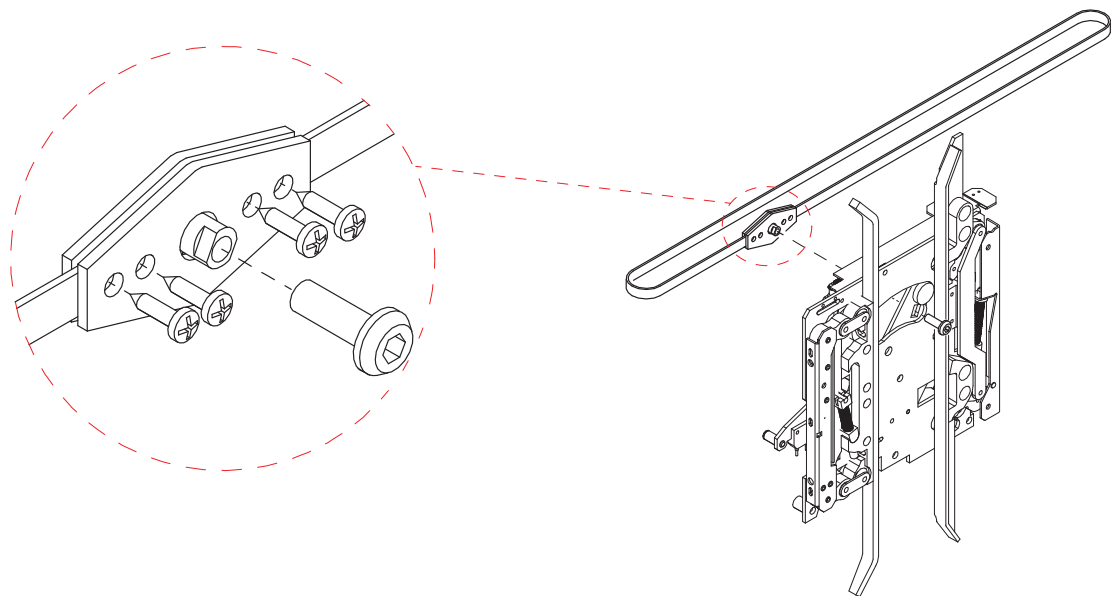

Figure 63 - Replace the Drive Belt
1. Remove the drive belt screws. See Figure 63.